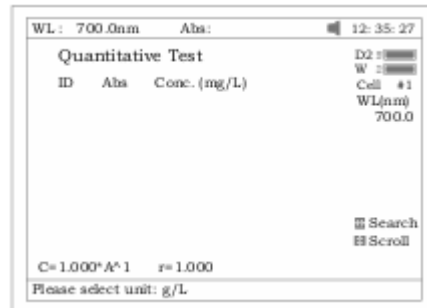

Fig.27
1. Press **【F1】** to select the unit of concentration (Fig 27).